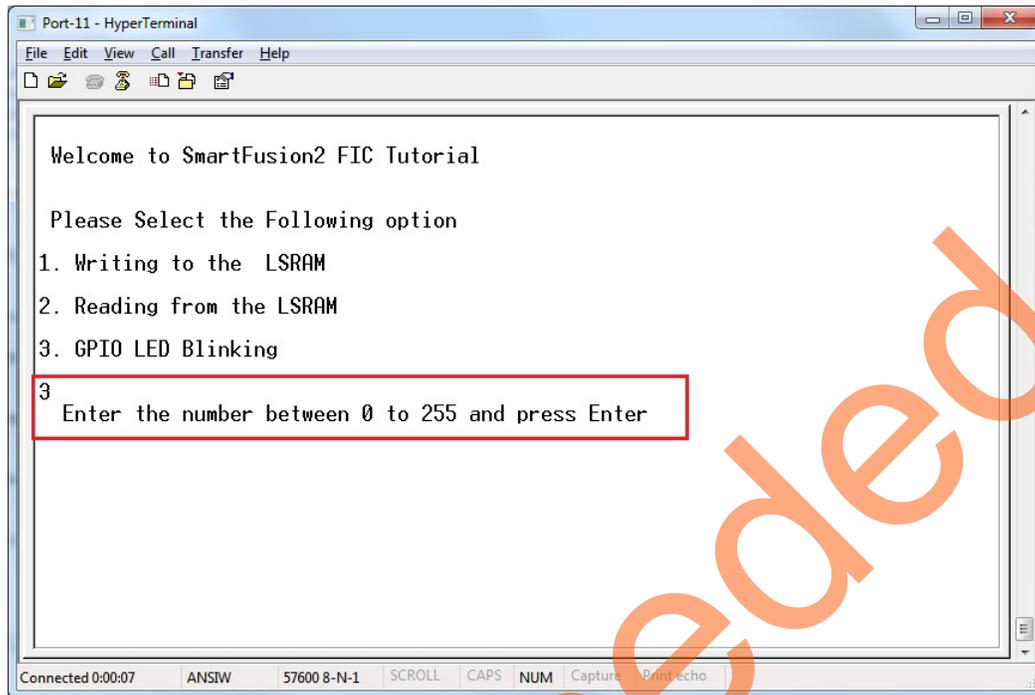

Figure 48 • Selecting GPIO LED Blinking
12. Select GPIO LED Blinking, it Prompts for “Enter the number between 0 to 255 and press Enter” as shown in Figure 48.